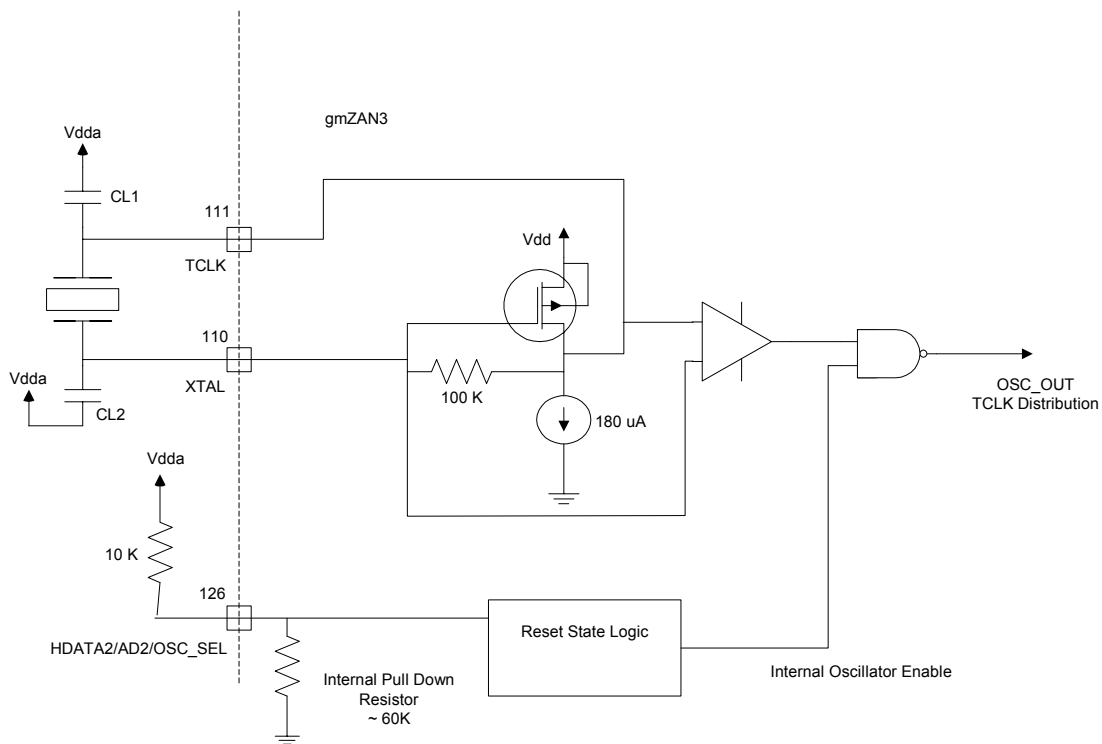

Figure 5. Using the Internal Oscillator with External Crystal
1. Crystal Input Clock (TCLK and XTAL). This is the input pair to an internal crystal oscillator and corresponding logic. A 14.318 MHz crystal is recommended. Other crystal frequencies may be used, but require custom programming. This is illustrated in Figure 5 below. This option is selected by connecting a 10K Ω pull-up to HDATA2/AD2/OSC_SEL. Alternatively a single-ended TTL/CMOS clock oscillator can be driven into the TCLK pin (leave XTAL and HDATA2/AD2/OSC_SEL as N/C in this case). This is illustrated in Figure 8 below. See also Table 14.